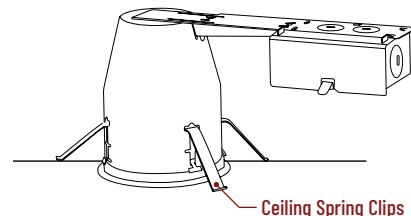

Figure 2
3. Push ceiling spring clips out of fixture until clip is flush with interior of housing. (Figure 2)